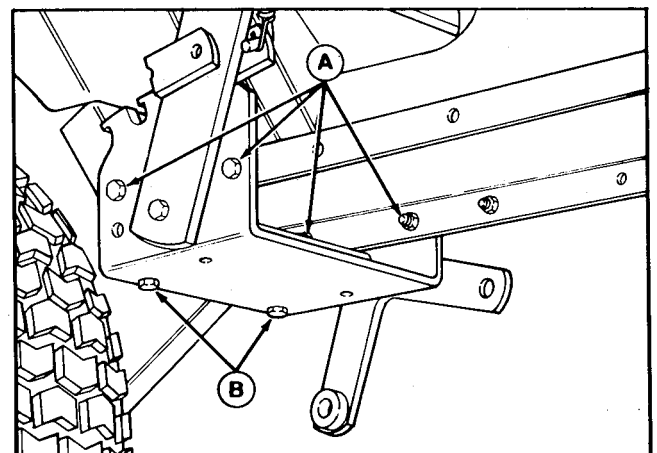

Figure 2. Install Lift Lever Assembly
2. Install the lift lever assembly to the footrest as shown in figure 2. Use four capscrews, lockwashers, and nuts supplied with kit. Install the hardware (A) with nuts to inside of foot rest.
4. Install two capscrews and lockwashers (B, figure 2) from bottom thru lever assembly, brace and speed nuts.